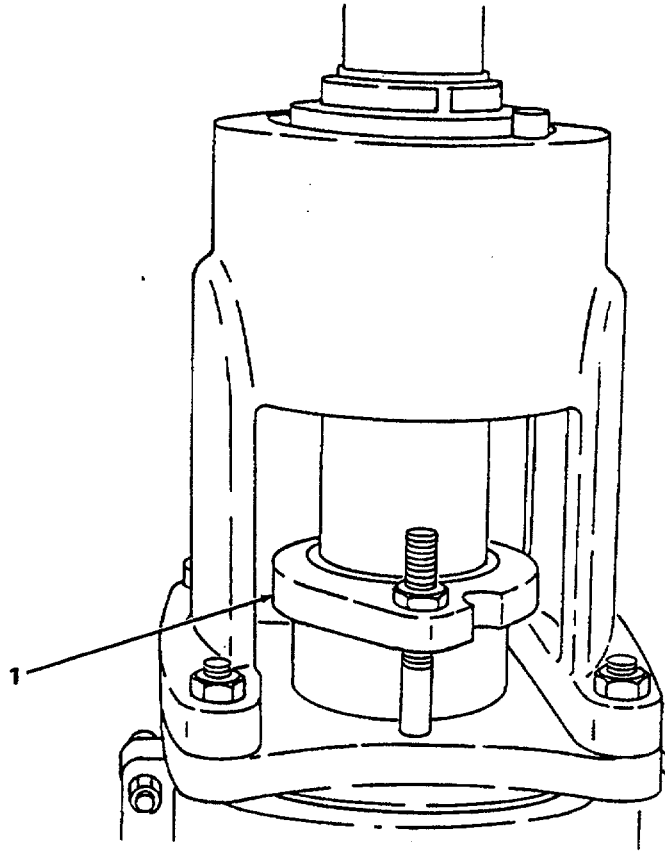

Figure 2-12. Cargo Transfer Pump Gland.
- (4) Check aft rake compartment, and especially the pump gland (1, figure 2-12), for leaks. The gland must be adjusted for a minimum of leakage and no overheating. Recheck at least once every hour during unloading operations.